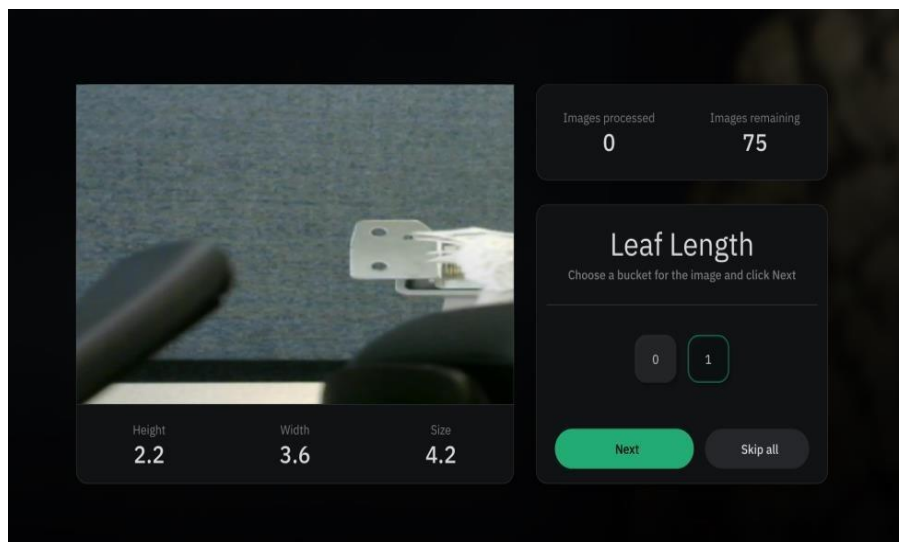

Figure 4.30: Choosing a class level for each flower
- **When the criterion already exists:** You may examine multiple images of a single flower and tag each image of each side of the flower on the screen by clicking on the corresponding level number in the bucket list. Click on the class level that the flower belongs to and click 'Next' (Figure 4.30). A lower number indicates better quality in the selected criteria, while a higher number signifies worse quality.